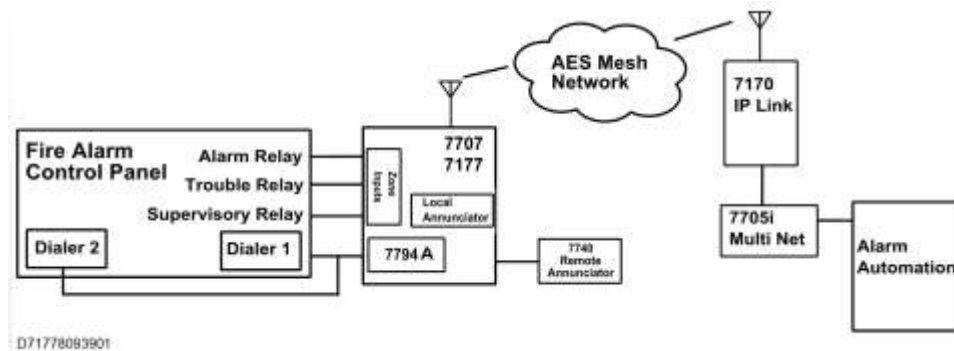

Figure 6. 7794A to Alarm Panel (U.S. Installation)
2. Wire the zones of the FACP to the 7707 or 7177 as shown above in Figure 6.